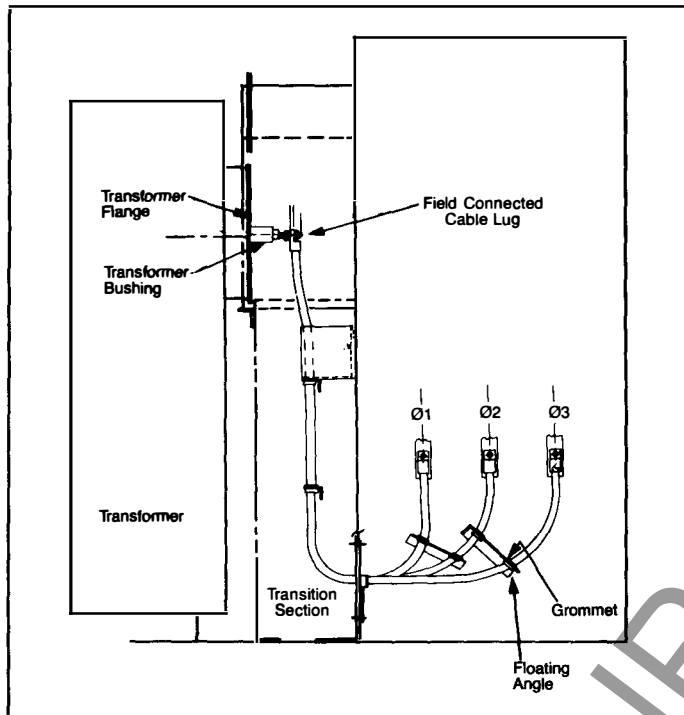

Figure 7. Cable Connection to Liquid Immersed Transformer
5. Connect cable to the transformer. Fig. 7.
Precut factory installed cables with suitable cable lugs are provided for making connections to a liquid-filled transformer, as shown in Fig. 7. To insure ease of assembly and proper fit of mating parts, position the switch and transformer according to dimensions indicated on the "General Arrangement" drawing.